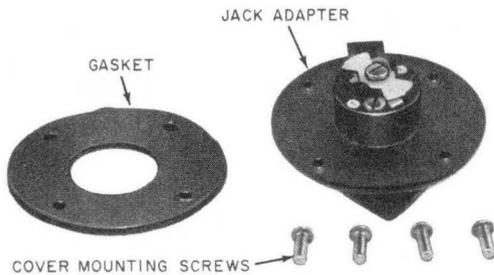

Fig. 1—B Weatherproof Female Jack Adapter
- Adapter, Jack, Female, Weatherproof, B (for use with existing KS-8421 jack housing on docks, Fig. 1 and 2)
2.02 The B weatherproof female jack adapter (Fig. 1 and 2) is mounted on an existing KS-8421 jack housing after the old jack and front plate are removed. It will receive the male plug of the B weatherproof cord to provide service to recreational vehicles or boats. A spring-loaded hinged cover protects the jack from weather when